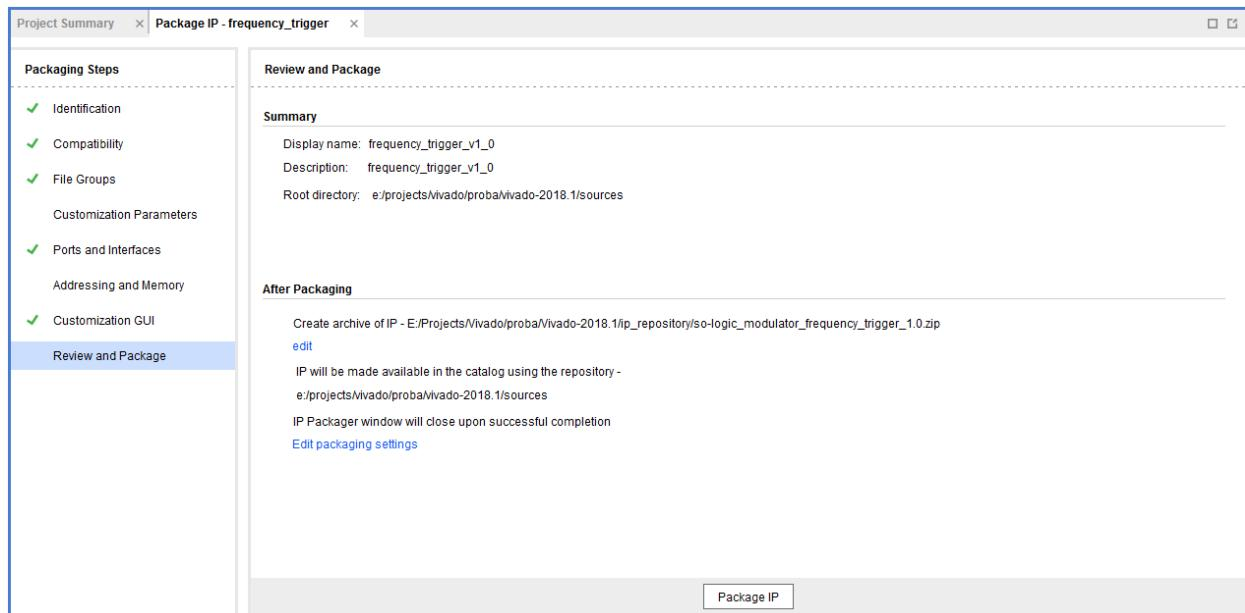

Figure 12.23: Review and Package window with new archive information
26. Click **OK** and you should see all the modifications that we made in the **After Packaging** sector of the **Review and Package** window, see Figure 12.23.